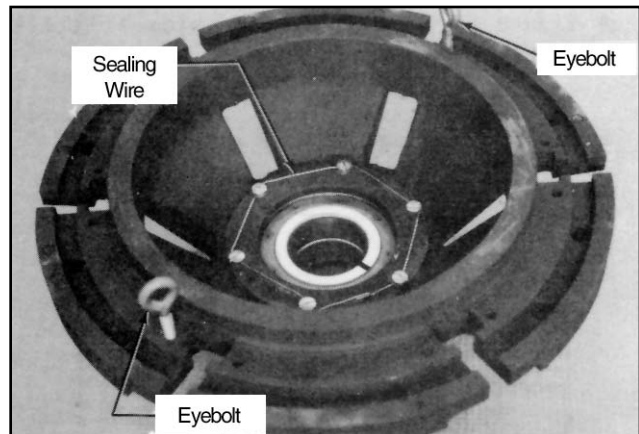

Figure 53
1. Remove sealing wire and screws from cover assembly, Figure 53.